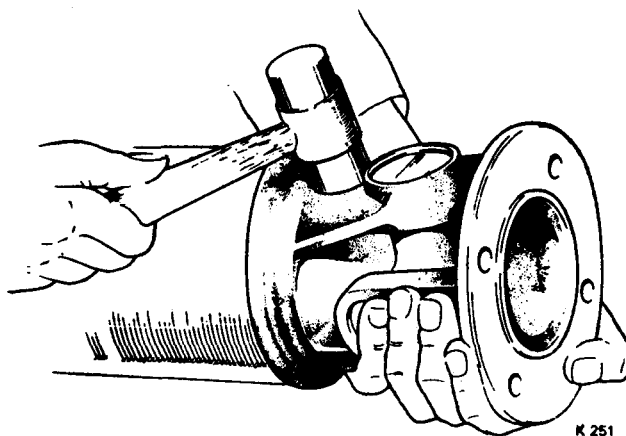

FIG. F4 REMOVING THE HARDY SPICER RACES
3. Using a hide mallet, tap the yokes until the races are driven out of the yoke eyes (see Fig. F4).